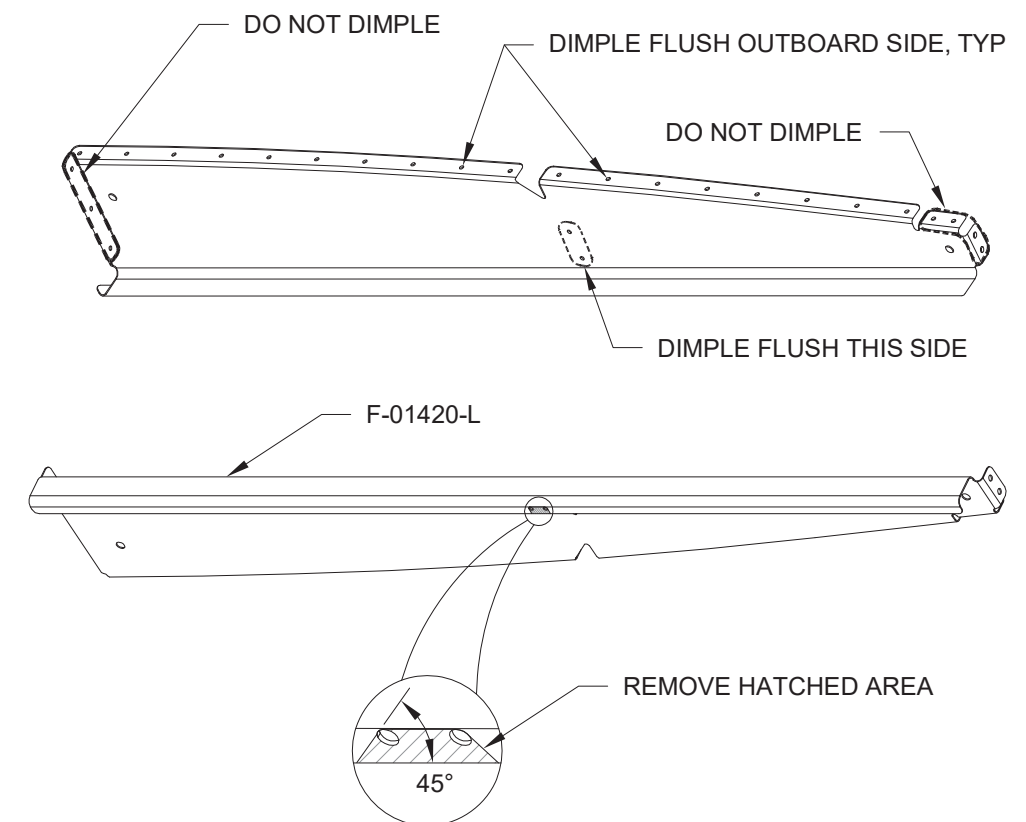

FIGURE 4: ARM REST
Step 6: Dimple the holes in the F-01420-L Arm Rest as shown in Figure 4.
Step 7: Trim the arm rest as shown in Figure 4.